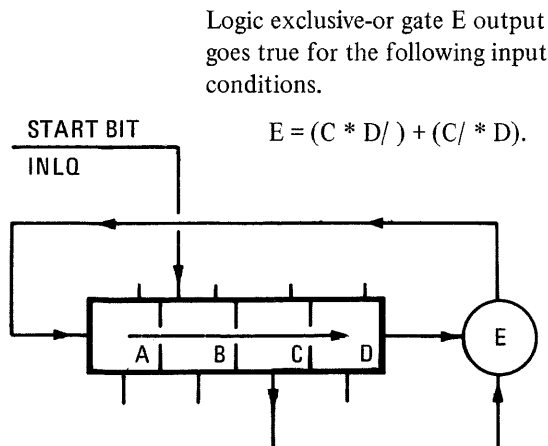

Figure 2-2. Simple Shift Register.
An introduction to bit pattern generator theory begins with an example of a 4 stage shift register as shown in Figure 2-2. The actual word generator in the FCT will be related to this simple 4 stage shift register, later in this section.
Consider a 4 stage shift register A thru D as shown in Figure 2-2. The signal !NLQ inserts a bit into the B stage for the first word of the Test sequence. Each stage output is connected to the following stage input. Exclusive-or gate (E) obtains its inputs from the shift register outputs C and D. Input to stage 1, is obtained from the exclusive-or gate output. All shift register stages A through D transfers the bit pattern to the next stage at clock time.
Figure 2-3 shows the bit patterns generated in sequence from the shift register, as shown in Figure 2-2. Start bit !NLQ begins the sequence by forcing stage B to hexadecimal 4. Clock 1 shifts this bit into stage C giving a value of hexadecimal 2. The exclusive-or gate E goes true to enable the stage A input on the next clock pulse. Clock 2 sets stage A by the true exclusive-or condition, and shifts the start bit !NLQ into stage C. At the end of clock 2 the register value equals hexadecimal 9. This sequence continues as shown in Figure 2-3, until Clock 15, where the series of hexadecimal bit patterns are repeated.
The term shift register, has been used to describe a simple 4 stage shift register as shown in Figures 2-2 and 2-4. But for the large 138 stage version, it is known as a word generator.